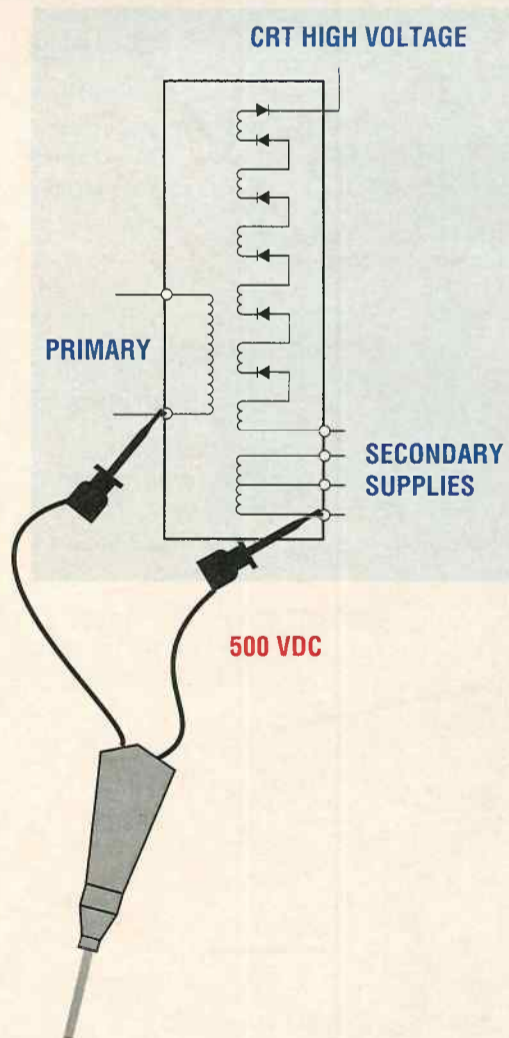

Fig. 5: Use a Sencore Z Meter to dynamically test flybacks for leakage between windings.
3. Connect the Z Meter test leads between two windings (see Fig. 5).